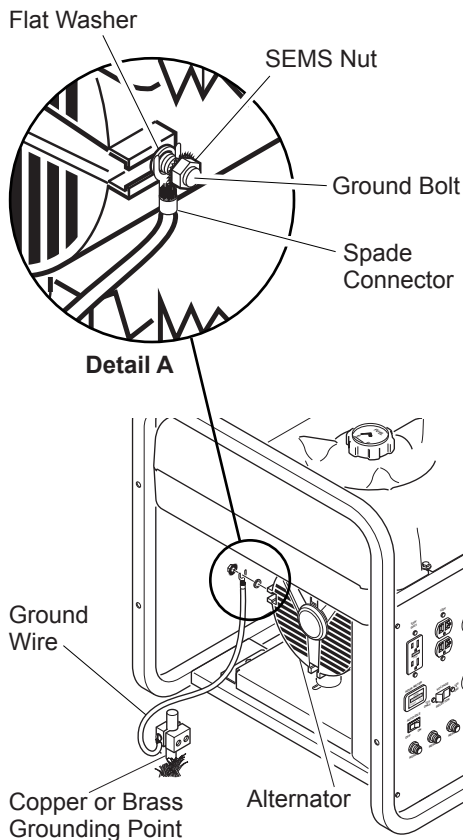

Figure 7 - Grounding Generator (Model MGR4500i Shown)
1. Locate ground bolt on generator housing (see Figure 7).
4. Attach spade connector to ground bolt between flat washer and SEM nut (see Detail A in Figure 7).